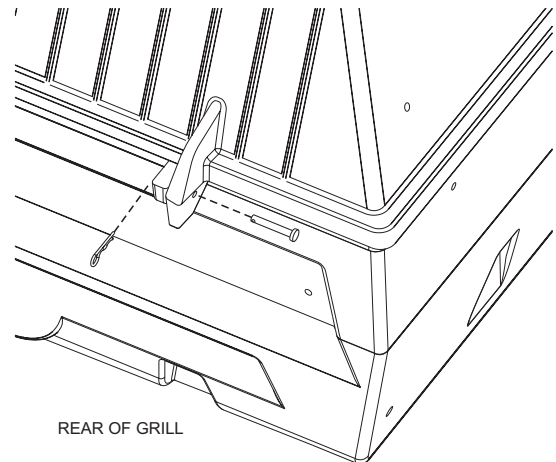

Figure 1
1. To ease installation, remove the grill body top from the grill body bottom by removing the two hinge pins and clips. See Figure 1.